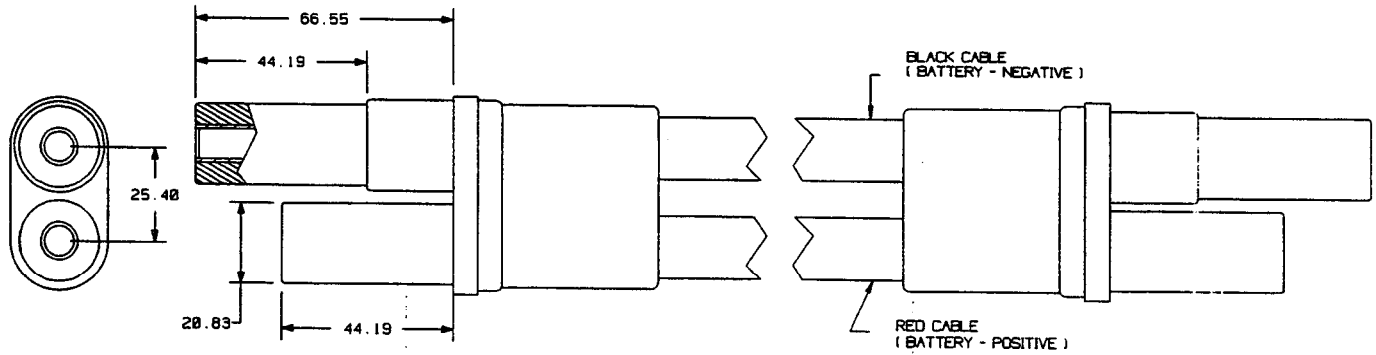

FIGURE 3—PLUG ASSEMBLY (MACHINE TO MACHINE)
- 3.2 The plug assembly shall contain two socket contacts as shown in Figures 3 and 4.
- 3.3 Two typical plug assembly configurations are shown in Figures 3 and 4.
- 3.3.1 The configuration shown in Figure 3 is used for auxiliary starting of one machine from another when both are equipped with a receptacle.